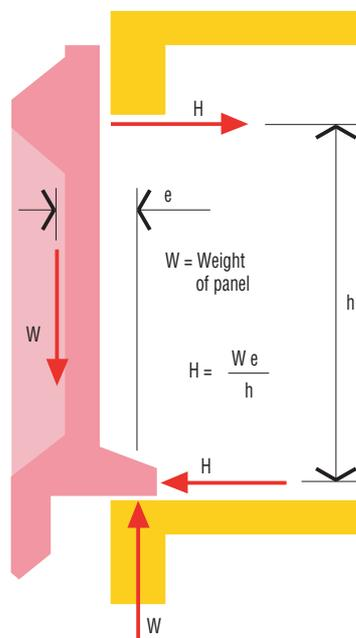

Figure 3 Eccentricity of gravity forces
- Connections should be chosen so that the loads are transferred through the connections as simply as possible with minimal eccentricities. The design of the component fixing must allow for the forces and moments in the detailed design Figure 3.